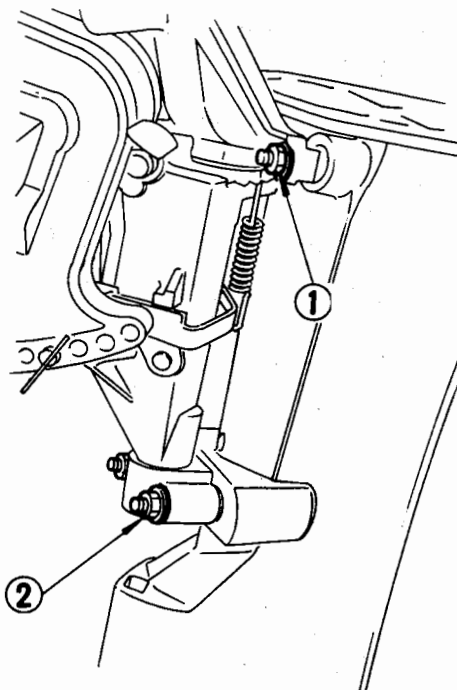

Fig. 84 Removing the mount rubber
- 1) Remove the nylon nuts (N10) from the mounting upper rubber and lower mounting rubber. (Fig. 84)